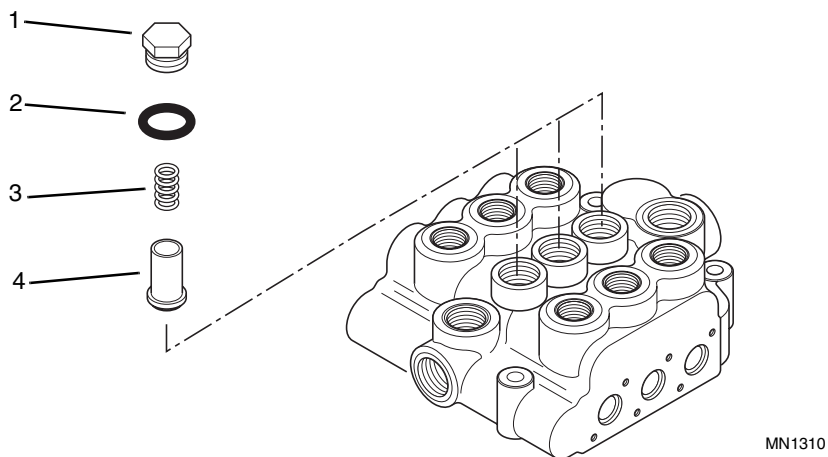

Figure 4-19 Load Check Components
2. Remove plug (Fig. 4-19, 1), o-ring (2), spring (3) and poppet (4).
3. Inspect spring (Fig. 4-19, 3) and poppet (4) for wear or damage. Replace all o-rings with new.
1. Install poppet (Fig. 4-19, 4) and spring (3) into the valve housing.
2. Install a new o-ring (Fig. 4-19, 2) on the plug (1), and install the plug hand tight into the valve housing. Torque to 48 lb/ft (65 Nm).